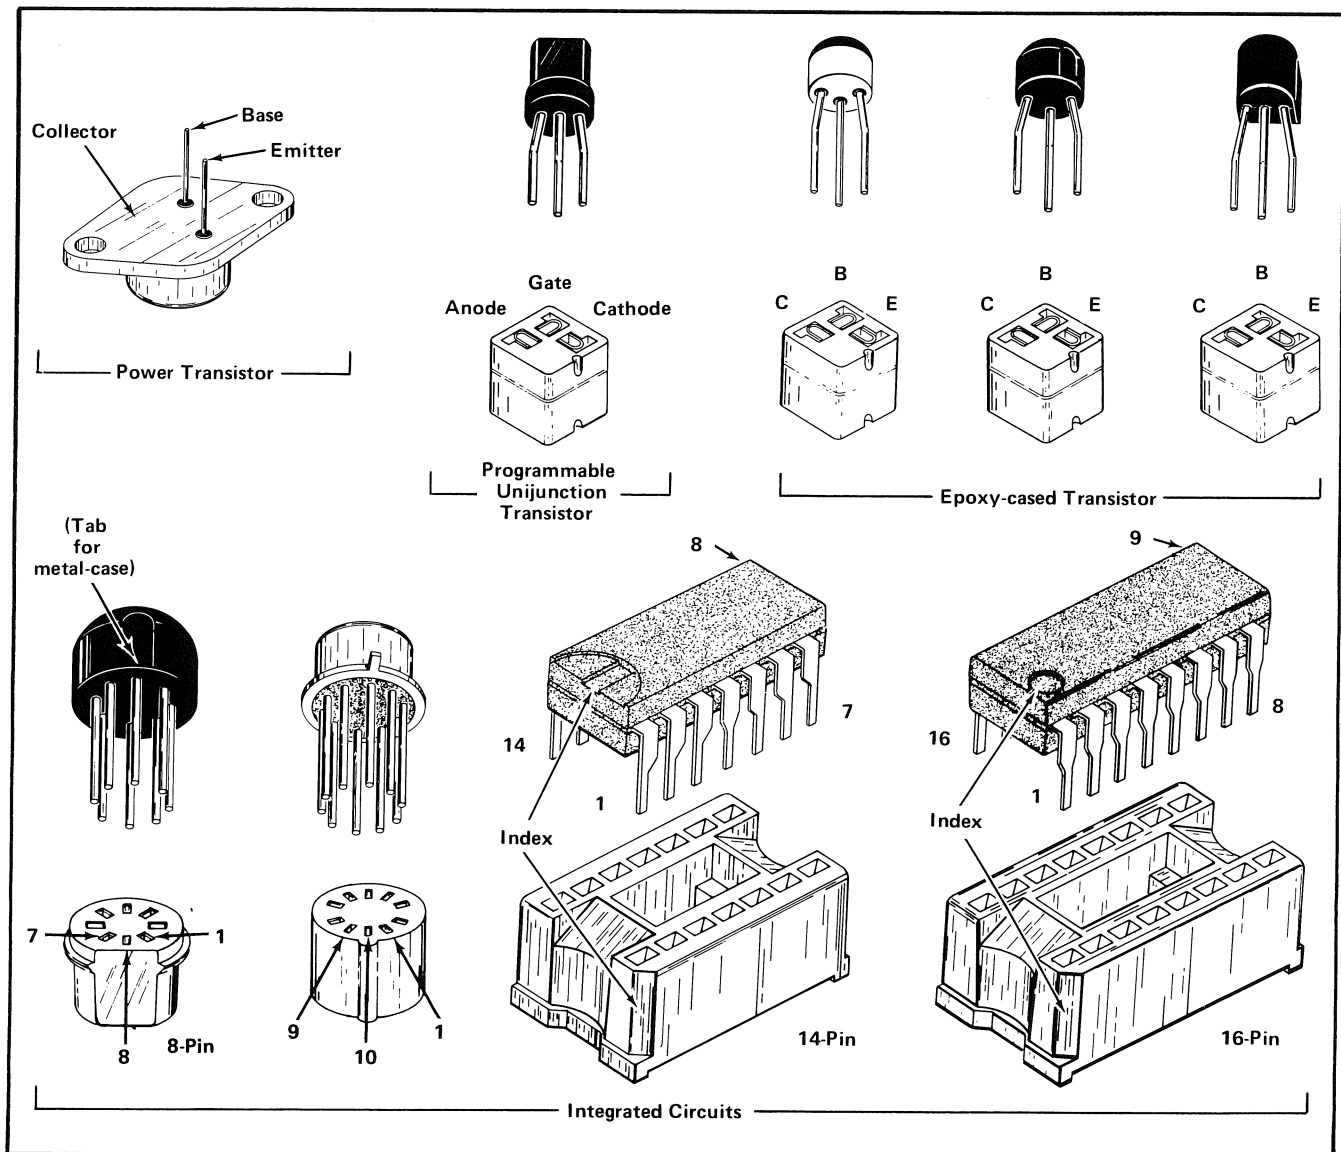

Fig. 4-2. Semiconductor installation information.
**Semiconductor Lead Configuration.** Fig. 4-2 shows the lead configurations of semiconductors used in this instrument. This view is from the bottom of the semiconductors.